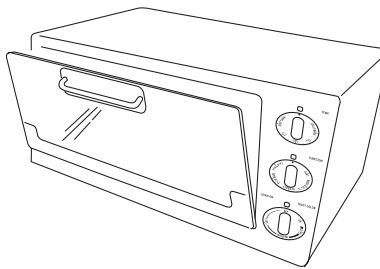

fig. 1
- Place the food to be grilled on the broil rack (P) inserted on the bake pan (H), and place them together in the guide 1.
- Close the door until you hear a “click” (see figure 1).
- Turn the function selector knob (D) to the BROIL or BROIL & ROTIS position.
- Turn the Timer knob (B) to the “ON” position.
- When cooking is completed, turn the Timer knob (B) manually to the “OFF” position.
- Turn the thermostat knob (A) to position TOAST/BROIL.
- Turn the function knob (D) to position BROIL & ROTIS.
- Turn the timer knob (B) to the “ON” position.